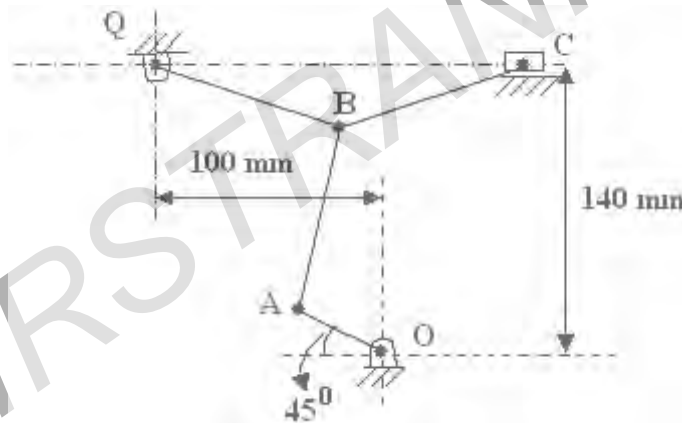

Figure 6
6. In the toggle mechanism shown in figure 6.,  $OA = 30$  mm,  $AB = 80$  mm,  $BC = 100$  mm,  $BD = 100$  mm. Find the velocities of the points B and C and the angular velocities of links AB, BQ and BC. The crank rotates at 60 rpm in the clockwise direction. [16]